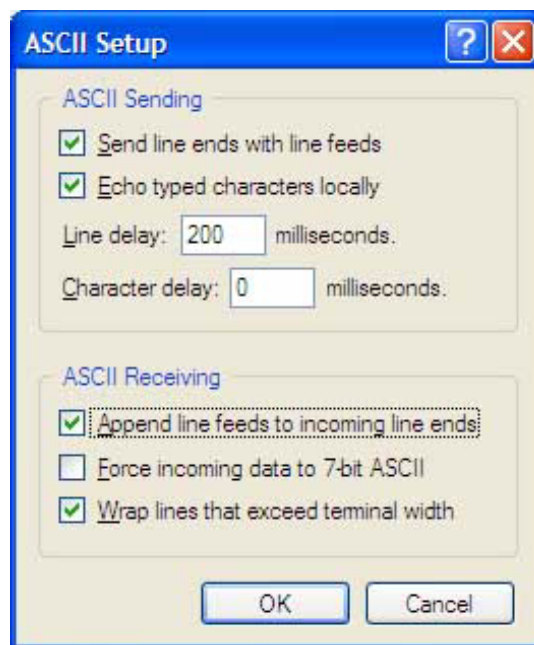

Figure 4-3 ASCII Settings
6. Configure the ASCII settings as shown in Figure 4-3: